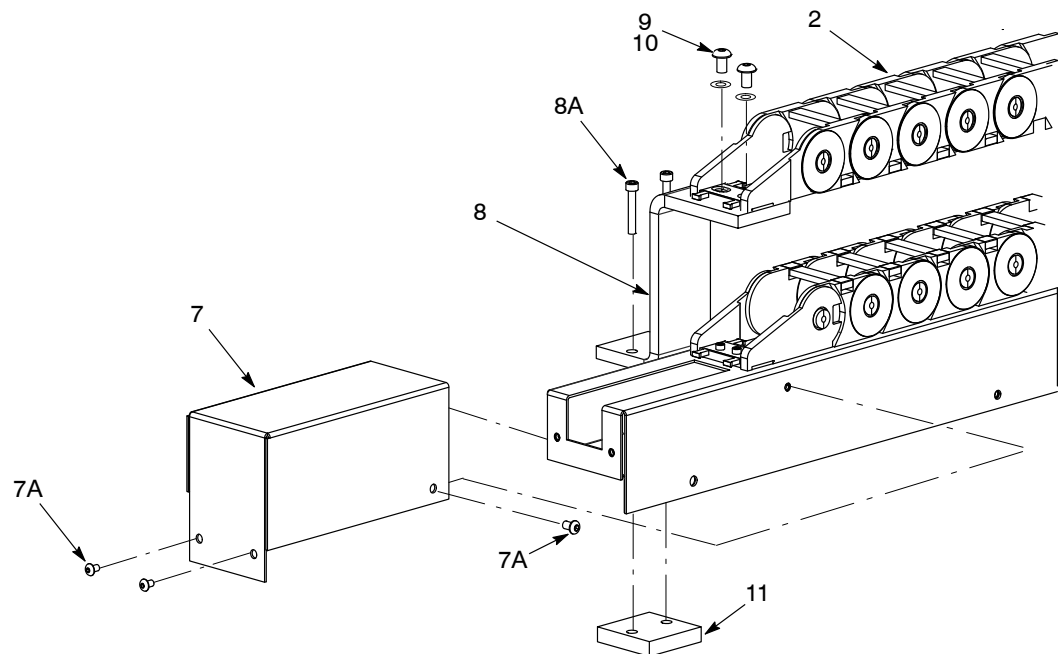

Figure 9 Installing Z-Bracket and Cable Chain Cover
5. See Figure 9. Install the Z-bracket (8) to the gun stand and carriage using two screws (8A).